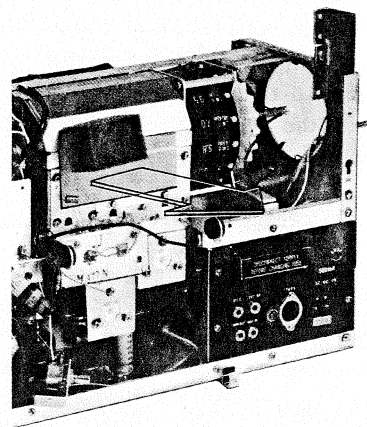

Fig. 2-13
4. Sw front-end block can be removed in the direction shown by the arrow in Fig. 2-13.